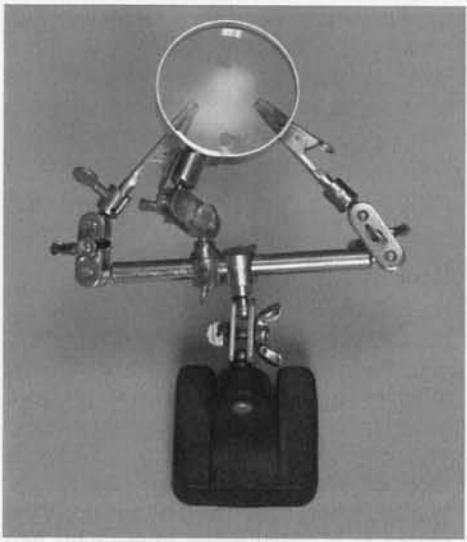

Fig.10.17 "Helping Hands".
3. For difficult compound angle joints "Helping Hands" is a boon. Fig.10.17